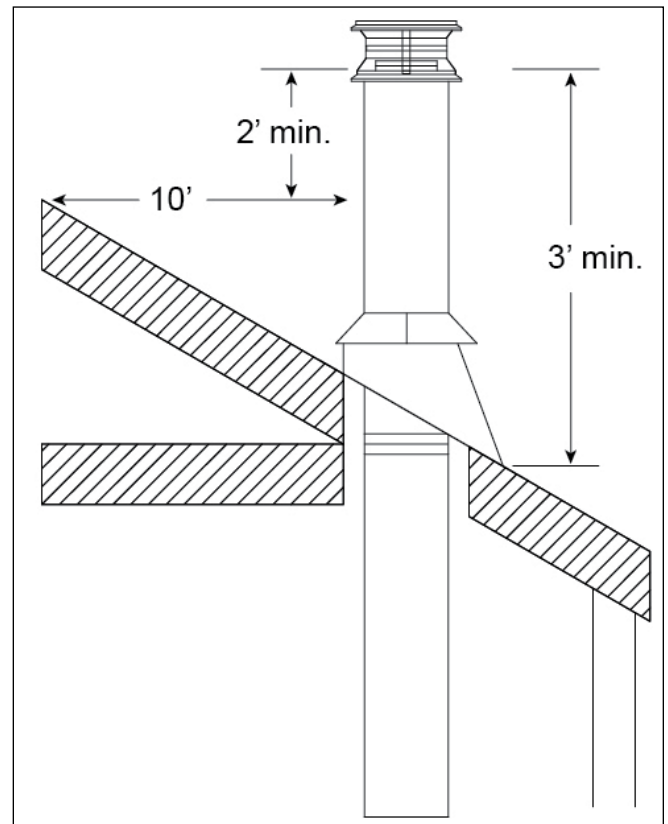

Figure 42
6. The chimney must extend at least 3 ft. (1 m) above its point of contact with the roof and at least 2ft. (0.6m) higher than any wall, roof or building within 10ft. (3m) of it (Figure 42).